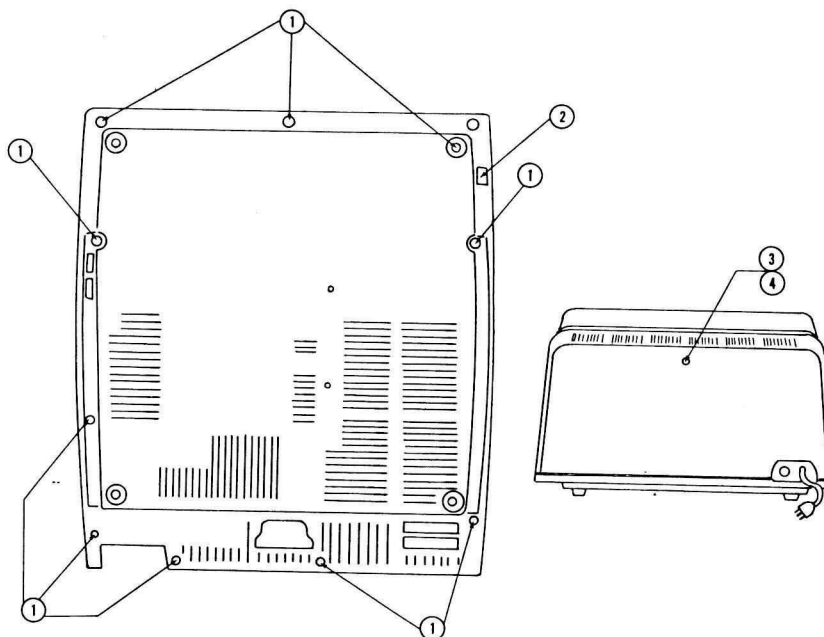

Figure 1. Outer Case Assembly
3. Remove the ten screws (Figure 1 Item 1) holding the bottom of the case (Figure 1 Item 2) to the top. Notice the different types and lengths of screws and note their positions.
5. Set the Computer upright and remove the #6 screw and washer (Figure 1 Items 3 and 4) from the top of the back panel of the case.